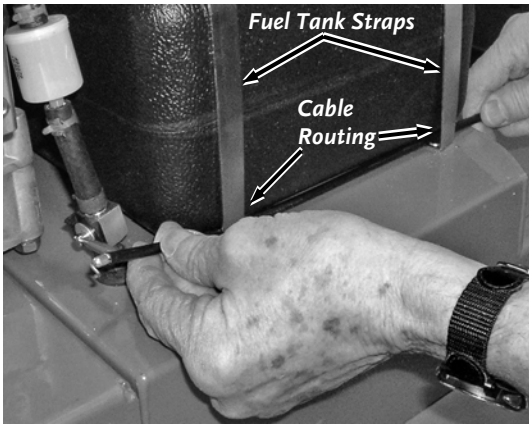

Figure 7
1. Route the Throttle Cable from the Tow Bar behind the Fuel Tank straps (**Figure 7**).
1. Route the Throttle Control Cable from the Tow Bar behind the Fuel Tank straps (**Figure 7** on page 17).